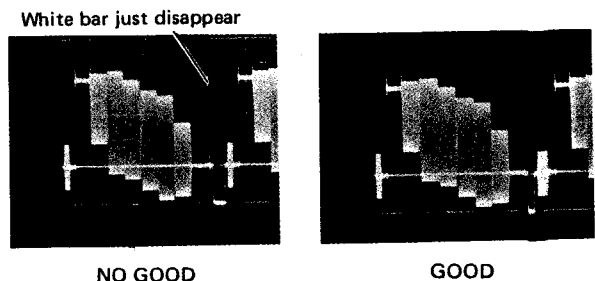

Fig. 5-3-1
- o Trigger the oscilloscope at H rate (Use TP4 (HD), Deflection board.).
- o Adjust VR7 (BAR WIDTH) so that the end of black bar portion coincides with the beginning of the horizontal blanking. (Fig. 5-3-1)